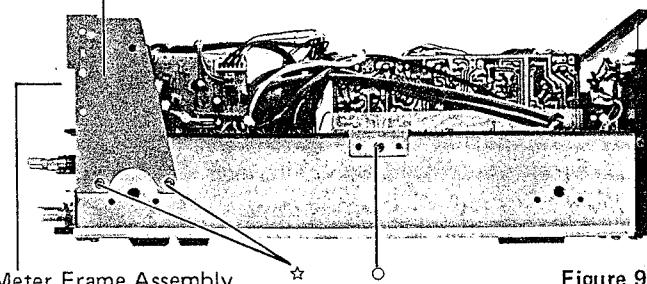

Figure 9
- (1) Remove two screws marked “★” from the side bracket (R) as shown in Figure 9.
- (2) Disconnect all wires from the meter frame assembly.
- (3) The meter frame assembly with lamp P.C. Board and LED P.C. Board can be completely removed from the chassis.
- (2) Remove four screws marked “○” as shown in Figures 9 and 10.